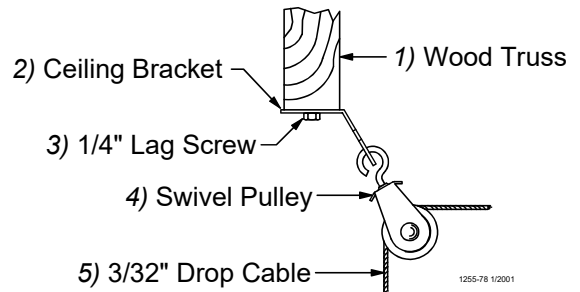

Figure 15. Pulley Installation
6. After securing the Ceiling Hook to the truss, slide the hook of a Swivel Pulley into the slot, as shown in **Figure 15**.
2. Thread the end of the 3/32" or 1/8" cable through the pulley toward the winch. Clamp this end to the 3/16" winch cable about 6" [150 mm] from the last pulley, using a 3/16" cable clamp. See applicable figure; **Figure 11** or **Figure 15**.